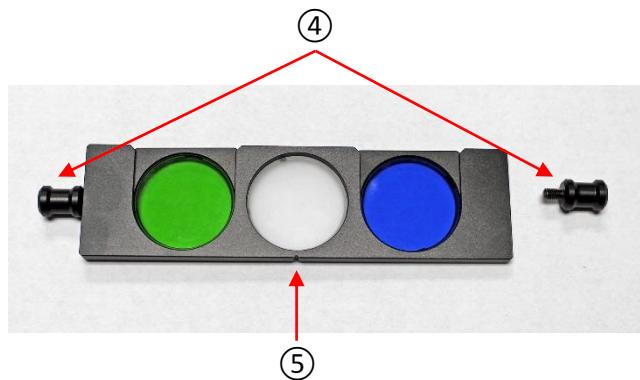

Fig. 21
To insert the filter slider into the filter slot on the MEC4, you must remove one of the end screws ④ (Fig. 21) by turning it counterclockwise. You may then insert the filter slider into the filter slot from either side of the microscope. Once inserted, replace the end screw by turning it clockwise.